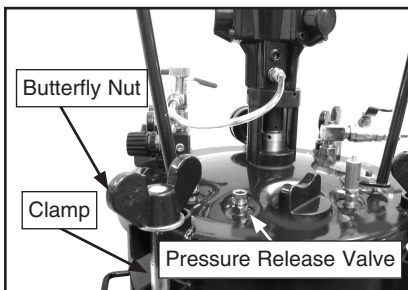

Figure 4. Pressure Release Valve.
2. Bleed out all tank pressure by loosening the pressure release valve (**Figure 4**) until air stops hissing out.
4. Loosen the butterfly nuts on the tank lid (**Figure 4**), tip the clamps back, and tilt the tank lid to one side.